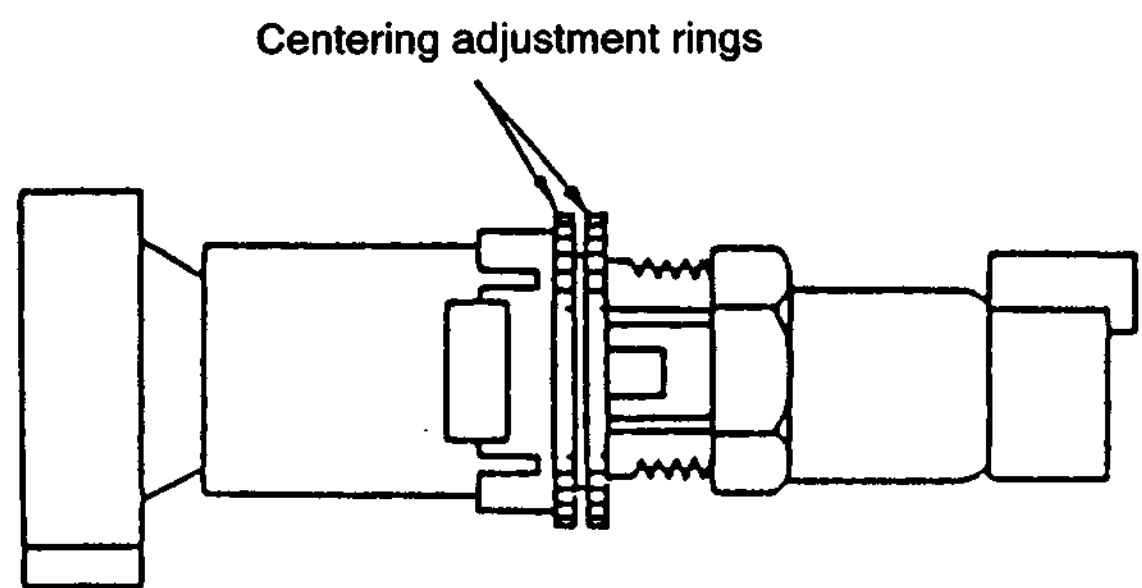

Fig. 7-1-16.
- 1) Turn the centering adjustment rings to provide an image with even right, left, upper and lower margins. (See Fig. 7-1-16.)